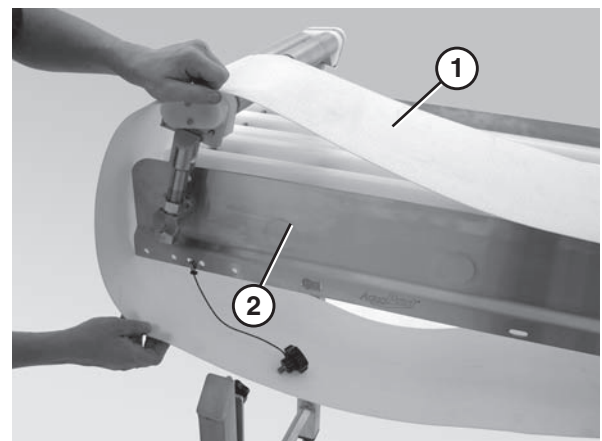

Figure 19
- Slide the belt (**Figure 19, item 1**) on over the conveyor frame (**Figure 19, item 2**).